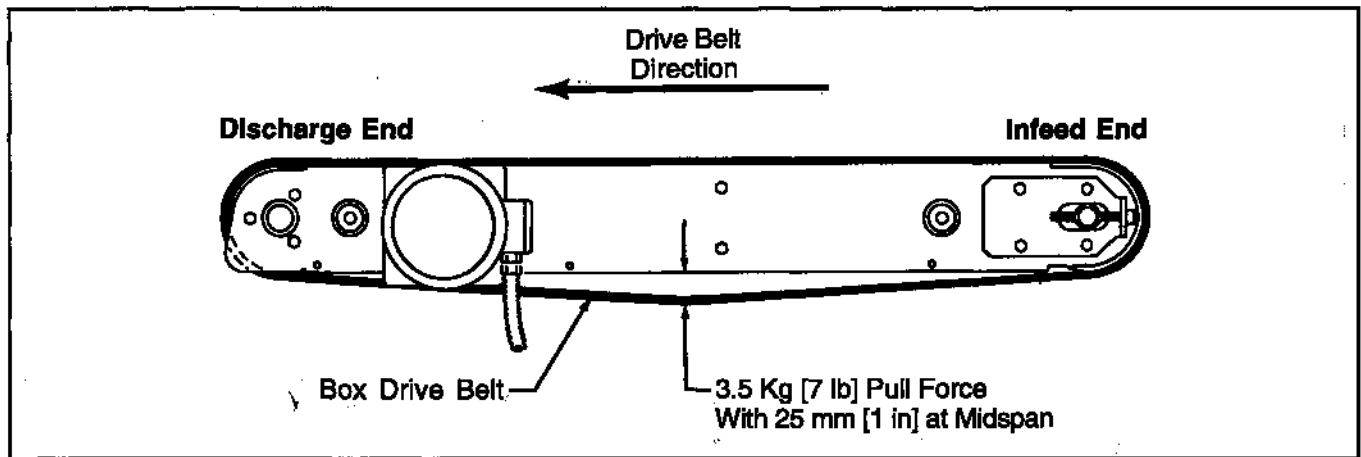

Figure 4-3 – Drive Belt Tension Adjustment, Upper
5. To adjust drive belt tension, turn adjustment screws (D) equally on both the upper and lower tension assemblies. Turn screws clockwise to increase tension or counterclockwise to decrease tension. See Figure 4-3.